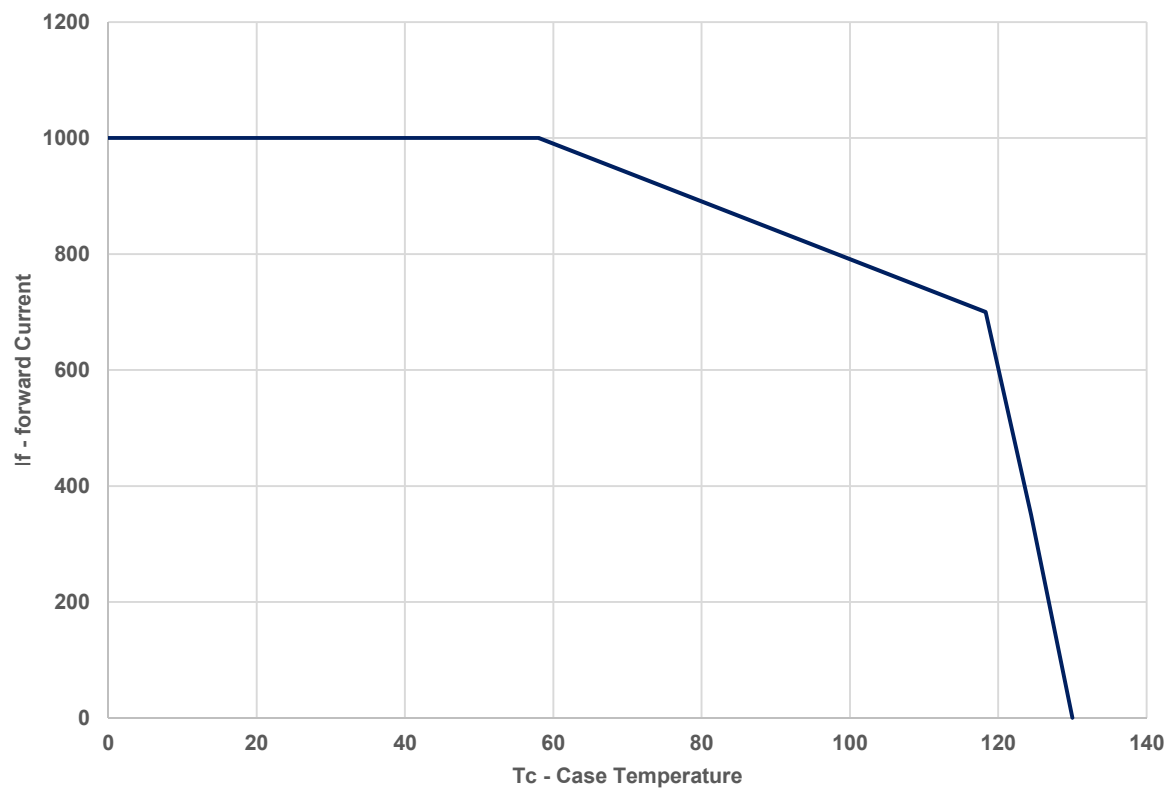

Figure 11: Maximum forward current vs. case temperature
- Maximum DC forward current is determined by the overall thermal resistance and ambient temperature. Follow the curves in Figure 11 for Current Derating.
Notes for Figure 11: